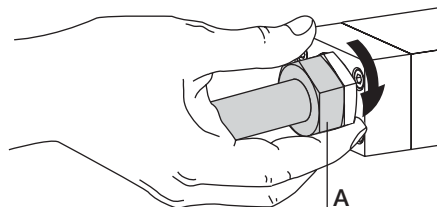

Fig. 15: Nut screwed by hand
- Insert the pipe in the compression-fitting body. Tighten the nut [A] by hand. Refer to Fig. 15.